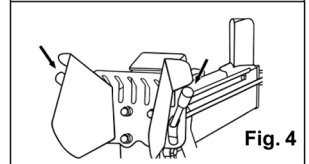

Fig. 4
- Move control handles down with both hands until the log is split. (Fig. 4)